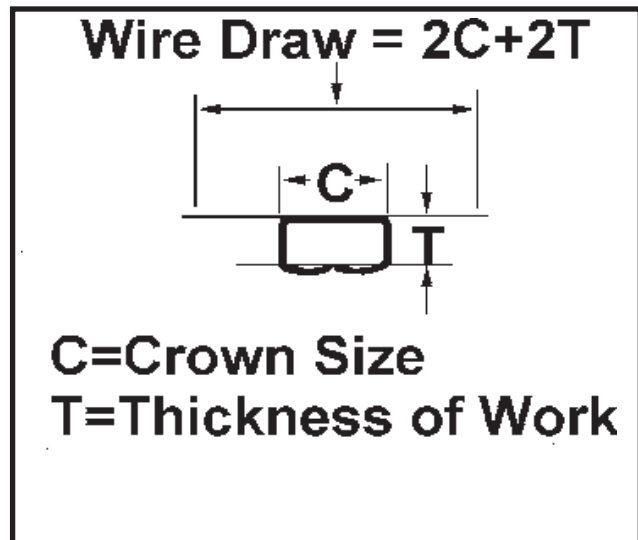

Figure 4-Wire Draw Dimensions
A. Determining Wire Draw (See Figures 4 and 5)
As a general rule stitches having a crown size of 7/16" should have sufficient wire draw so that the clinched legs just about meet, as shown in Figure 4. For a 7/16" crown size stitch the correct length of wire draw would be twice the crown size plus twice the thickness of the work to be stitched or when reduced to a formula:
The above formulas do not take into consideration the type of material to be stitched. Some materials might require staple leg lengths different than those shown in Figs. 4 and 5. However, as a general rule the formulas shown can be used.